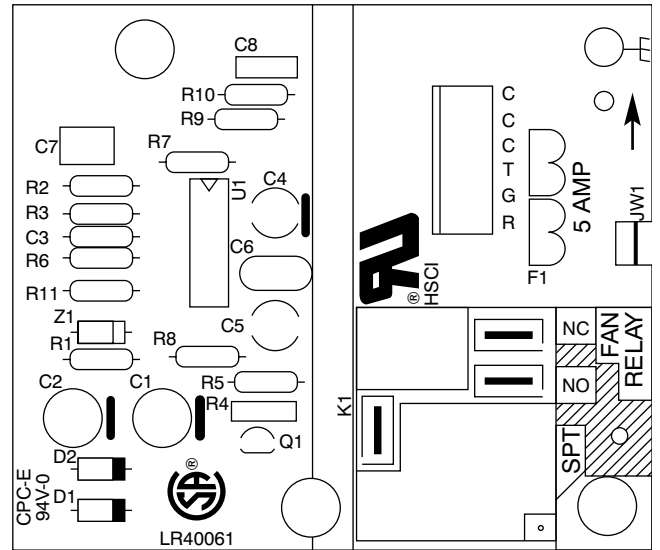

Fig. 1 – Fan Coil Printed Circuit Board (HK61EA006)
Layout of the actual PCB is depicted in Fig. 2 and Fig. 1.
Use wiring schematics shown in Fig. 2, and Fig. 1 as a guide in troubleshooting PCB unless otherwise noted.
- (3.) Check low-voltage fuse shown in Fig. 2 or Fig. 1. If fuse is blown, replace it with an identical 5A fuse. The transformer cannot supply power to board with fuse blown or loose. If fuse blows when unit has power applied to it, the system most likely has one of the following problems:
- (1.) Check wiring of sequencers/relays as shown in Fig. 2 and Fig. 1. Be sure transformer is not shorting out because thermostat wires are miswired.
- (1.) Check wiring of relays as shown in Fig. 2 and Fig. 1. Be sure low-voltage and high-voltage wiring is correct.